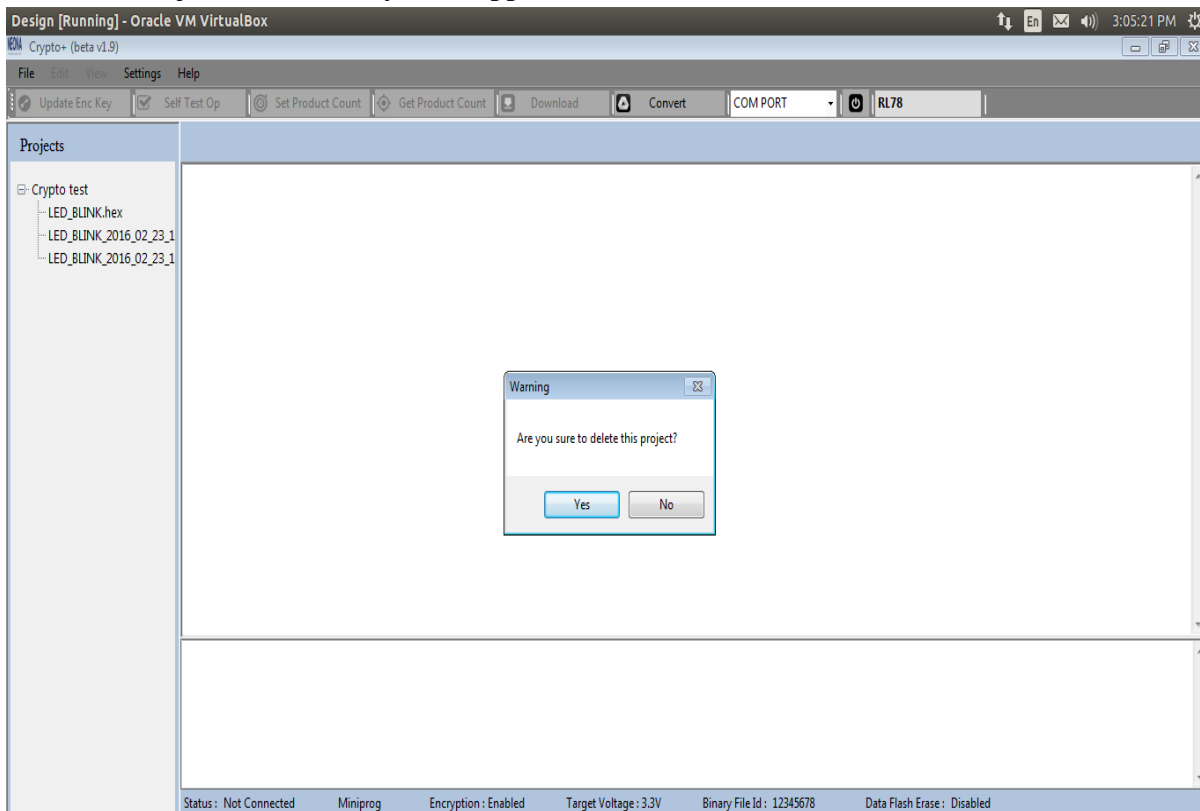

Figure 2.50
- **Delete:** The project can be deleted. A warning window will appear as shown in figure 2.50. If you want to proceed then click **Yes**. After deleting the project a message **‘Deleted Project Successfully’** will appear in the text view.